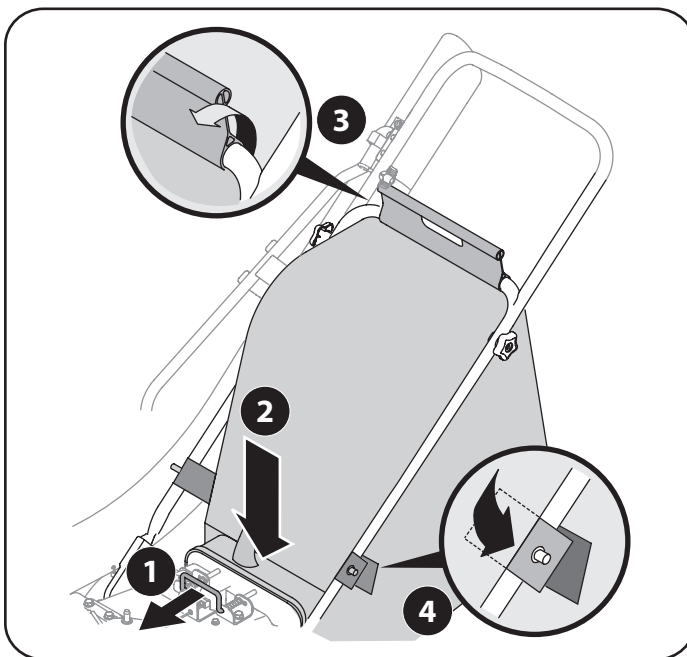

Figure 7
1. Grasp bag handle with one hand and slide locking rod on mounting bracket with other hand toward engine. Use the end of mounting bracket as leverage when sliding the locking rod. See Figure 7.
4. Place the lower straps on the bag over the top of lower handle, hooking them on the studs. See Figure 7.